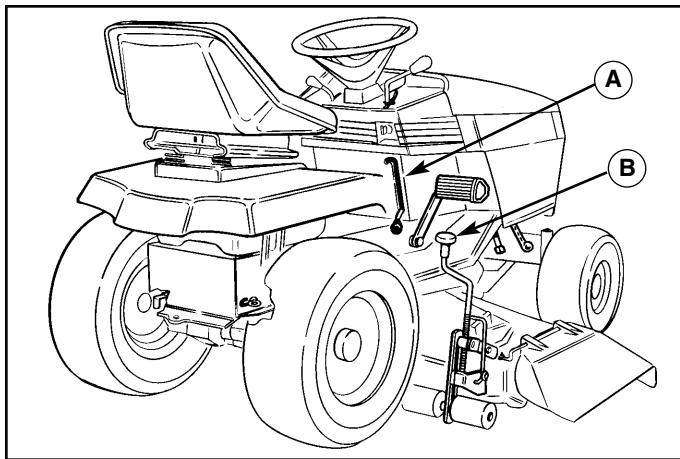

Figure 7. Raising & Lowering Mower
2. Place mower in the lowest cutting position using the mower height adjuster (B, Figure 7).
3. Place the mower lift lever (A, Figure 7) in the lowest position.